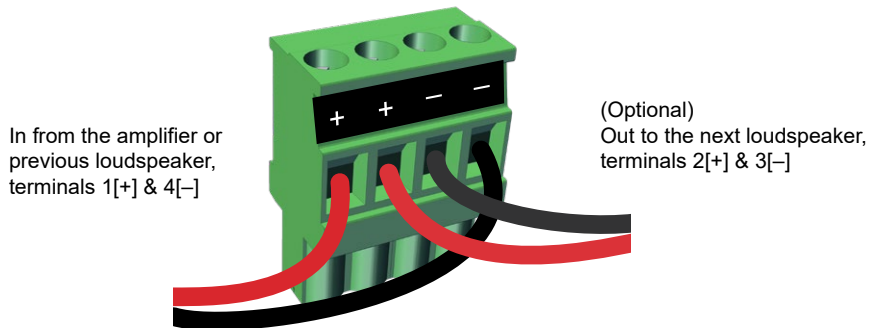

Figure 1. Wire euroblock connector
6. Thread the cable or wires through the clamp and wire the euroblock connector as shown in Figures 1 and 2. Pay special attention to the labeled polarity. Loudspeakers may be daisy-chained by using the second set of terminals.